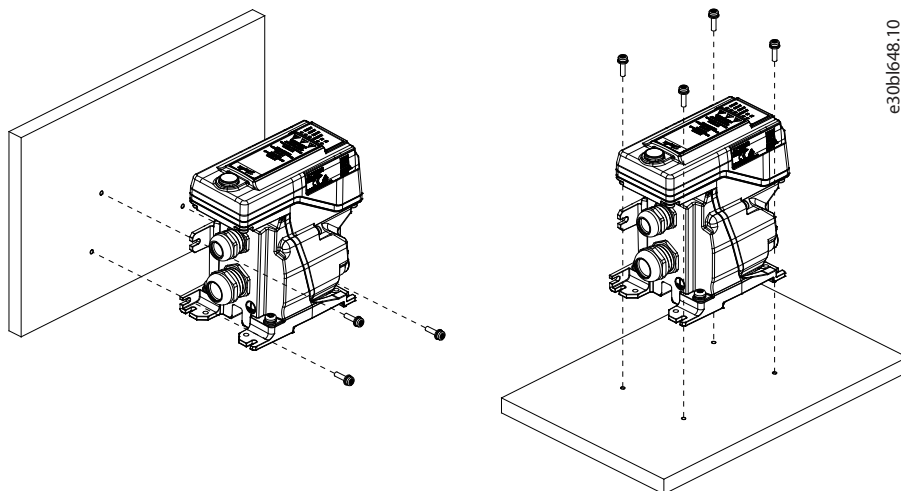

Figure 28: Mounting of DSD 520 Servo Drive
3. Mount the DSD 520 to the mounting plate using M4 screws with a minimum strength class of 8.8. The 2 possible mounting positions are shown in Figure 28.